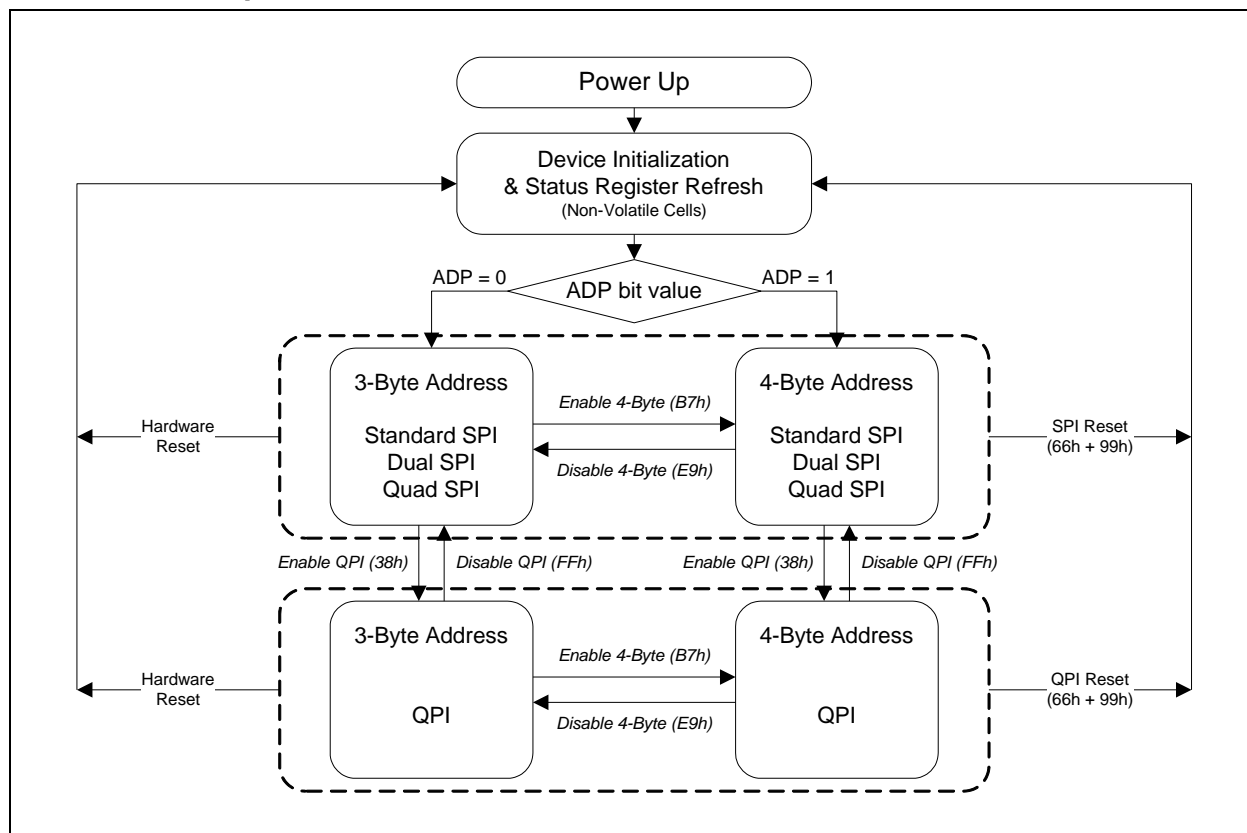

Figure 3. W25Q256JW Serial Flash Memory Operation Diagram
The W25Q256JW supports Quad Peripheral Interface (QPI) operations only when the device is switched from Standard/Dual/Quad SPI mode to QPI mode using the “Enter QPI (38h)” instruction. The typical SPI protocol requires that the byte-long instruction code being shifted into the device only via DI pin in eight serial clocks. The QPI mode utilizes all four IO pins to input the instruction code, thus only two serial clocks are required. This can significantly reduce the SPI instruction overhead and improve system performance in an XIP environment. Standard/Dual/Quad SPI mode and QPI mode are exclusive. Only one mode can be active at any given time. “Enter QPI (38h)” and “Exit QPI (FFh)” instructions are used to switch between these two modes. Upon power-up or after a software reset using “Reset (99h)” instruction, the default state of the device is Standard/Dual/Quad SPI mode. To enable QPI mode, the non-volatile Quad Enable bit (QE) in Status Register-2 is required to be set. When using QPI instructions, the DI and DO pins become bidirectional IO0 and IO1, and the /WP and /HOLD pins become IO2 and IO3 respectively. See Figure 3 for the device operation modes.